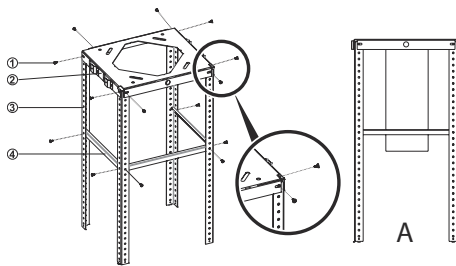

Fig. 12
2. ➔ Install product hanging bars to ceiling hanging plate with 8 pcs. 3.5 x 9.5 r phillips cylinder head screw (Fig. 12).
Install product hanging bars to balance hanging bar balancing components with 6 pcs. 3.5 x 9.5 rysb screw (Fig. 12).